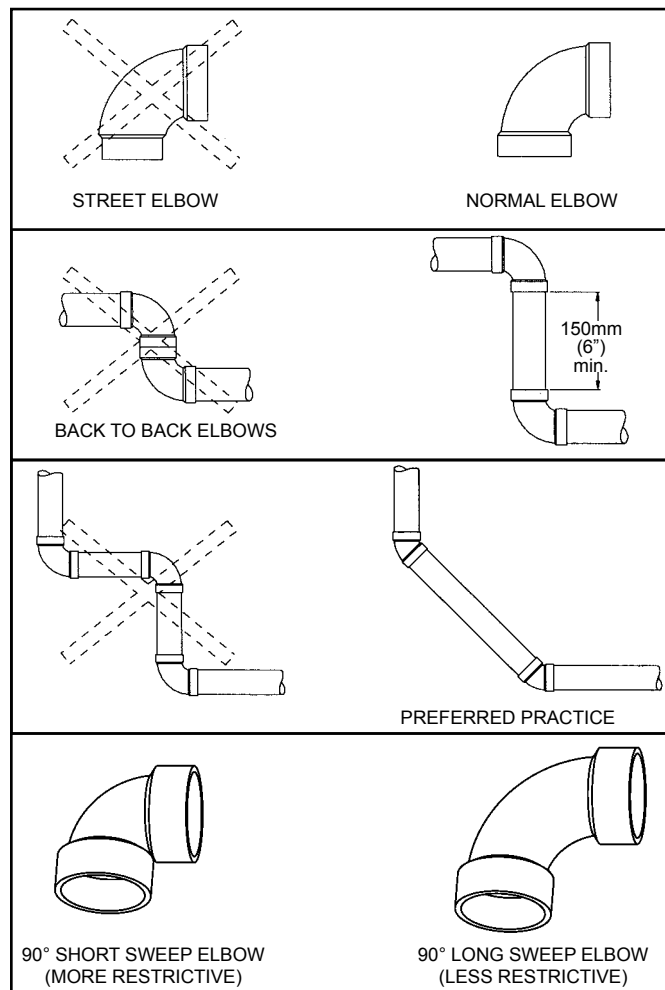

Figure 25.
Note: The information provided in Figure 25 is intended as a guideline for good vent installation practices only and is not intended to restrict venting options beyond those restrictions established by the current edition of the **“Natural Gas and Propane Installation Code” B149.1** or any applicable local and provincial codes.
3. Avoid using 90° elbows "back to back" and do not use street elbows. Maintain a minimum 150mm (6") straight section between elbows. Closely coupled and short radius elbows reduce the venting capacity. Figure 25 shows examples of vent pipe connections.